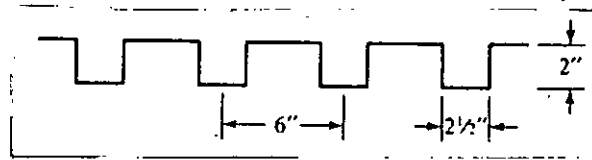

Fig. 1
1. (a) A composite floor system consists of formed steel deck of the type shown in Fig. 1. The beams are W21x73, and the composite deck has a total thickness of 5 in. from top of slab to bottom of deck. The effective slab width is 90 in., and the span length is 30 ft. Compute the nominal flexural strength with one 0.75 in diameter and 3.5 in long studs per rib. Use AISC-LRFD method.